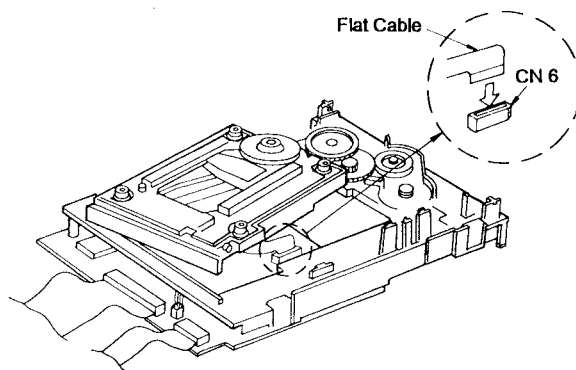

Figure 30
- (9) Connect the flat cable to CN 6 as shown in Figure 30.